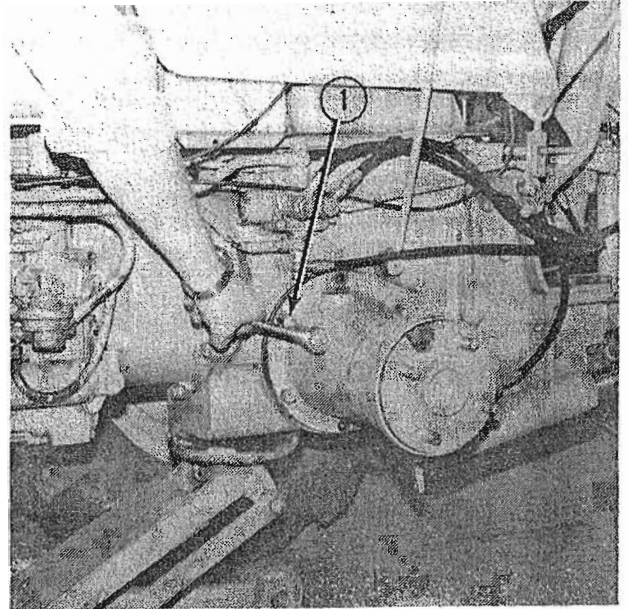

FIG. 2
Remove the (6) 10 x 30 mm. bolts attaching the axle casting to the transmission case. (1, Fig. 2)